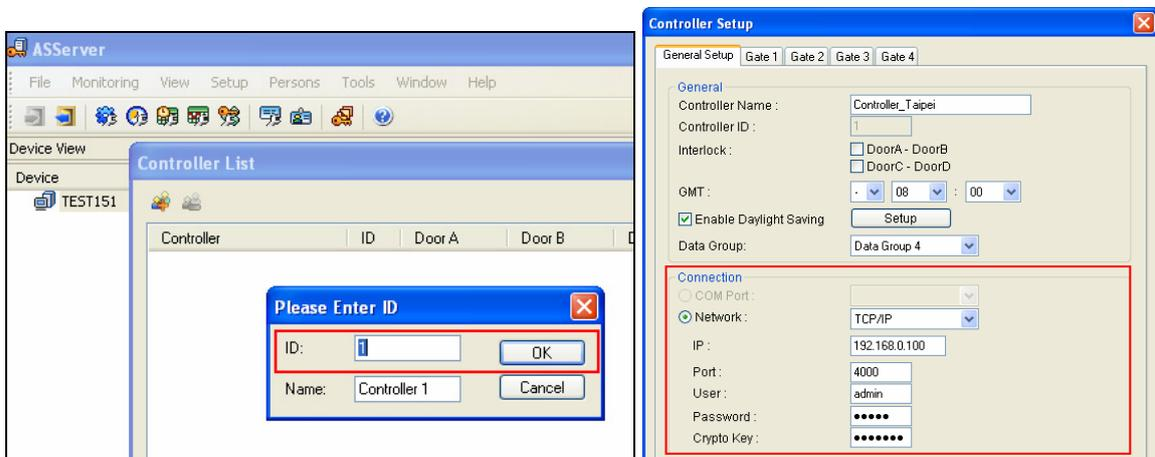

Figure 10-3
- On the GV-ASManager, enter the following settings. See Figure 10-3.